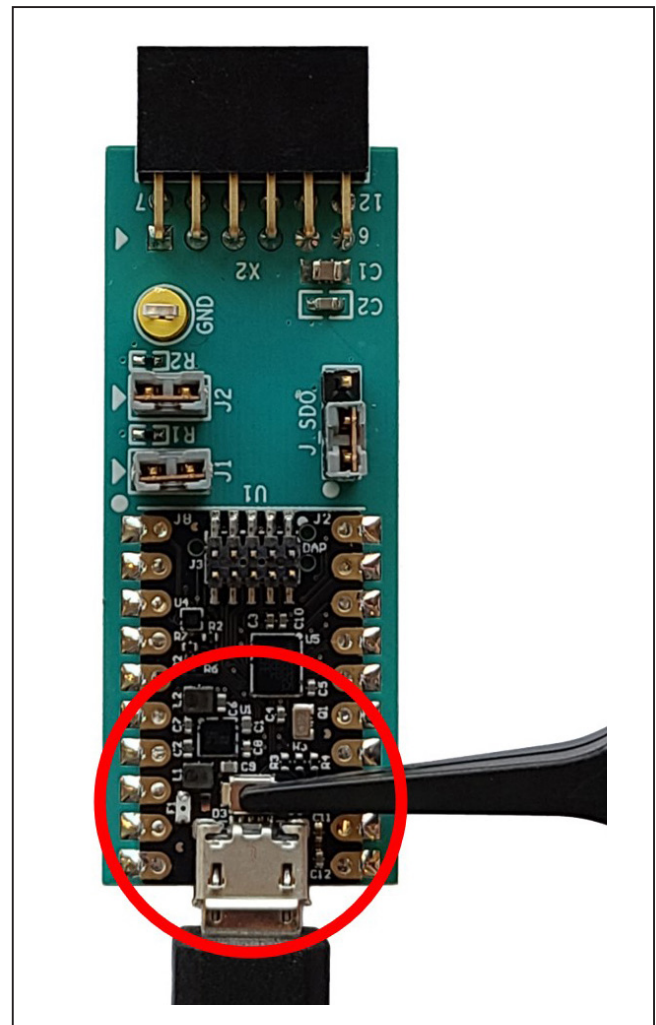

Figure 7. Enter Maintenance Mode on the MAX32625PICO
- 1) Put the board in maintenance mode by holding the button while the board is being connected to the computer. It can be easier to hold the button while inserting the USB cable at the computer end rather than the micro USB connector end (see Figure 7).